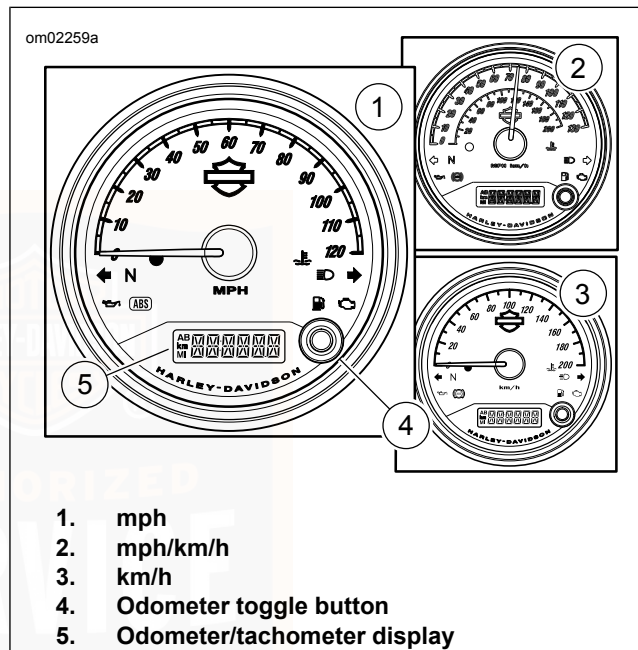

Figure 20. Speedometer/Tachometer
See Figure 20. The speedometer is calibrated in miles per hour, (mph) (1), kilometer per hour (km/h) (3) or in dual miles per hour (mph) and kilometers per hour (km/h) (2).